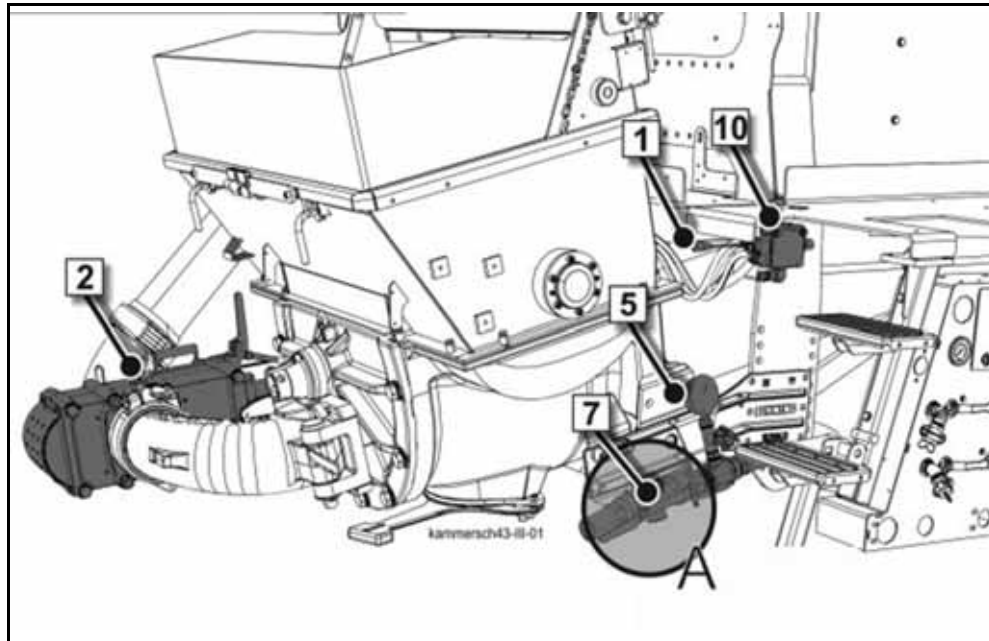
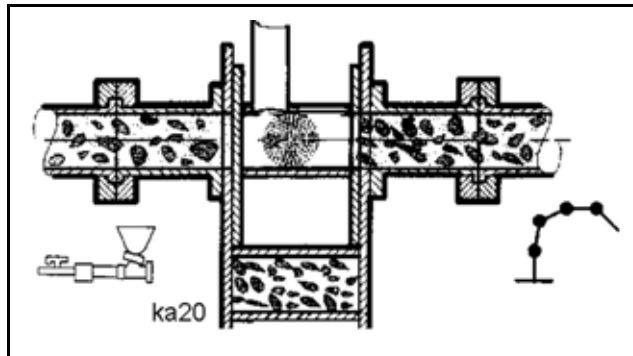

Fig. 499 Complete chamber valve
Fig. 511
- Use caution when opening the ball valve (7) (**Fig. 499**). Residual concrete can be ejected from the blow valve opening.
The chamber valve is installed in the pumping line for the boom outlet on the rear of the machine (2) (Fig. 499).
The control devices for the system are located on the rear of the machine, on the right (1) (Fig. 499).
Caption for (Fig. 499), (Fig. 500)
- Shut the ball valves for the air system (6) (**Fig. 500**) and (7) (**Fig. 499**).
<p>10214311</p>	<p>Actuate the control lever (1) (Fig. 499) until the chamber with the ball is completely inside the gate valve housing (Fig. 511).</p> <p>The connection between the concrete pump and boom pumping line is then interrupted. When the spring-centred control lever (1) (Fig. 499) is released, it returns to the "Neutral position".</p>
- Open the ball valves for the air system (6) (**Fig. 500**) (7) (**Fig. 499**).
- Slowly shut the ball valve (7) (**Fig. 499**).
- During the cleaning process, monitor the compressed-air pressure gauge continuously (5) (**Fig. 499**).
Immediately open the ball valve (7) (**Fig. 499**)!
- Completely open the ball valve (7) (**Fig. 499**) when the ball has come out of the pumping line.
Extend the valve chamber only while the compressor is off and the pressure gauge (5) (**Fig. 499**) displays "0 bar".
- Depressurise the pumping line by opening the discharge ball valve (7) (**Fig. 499**).